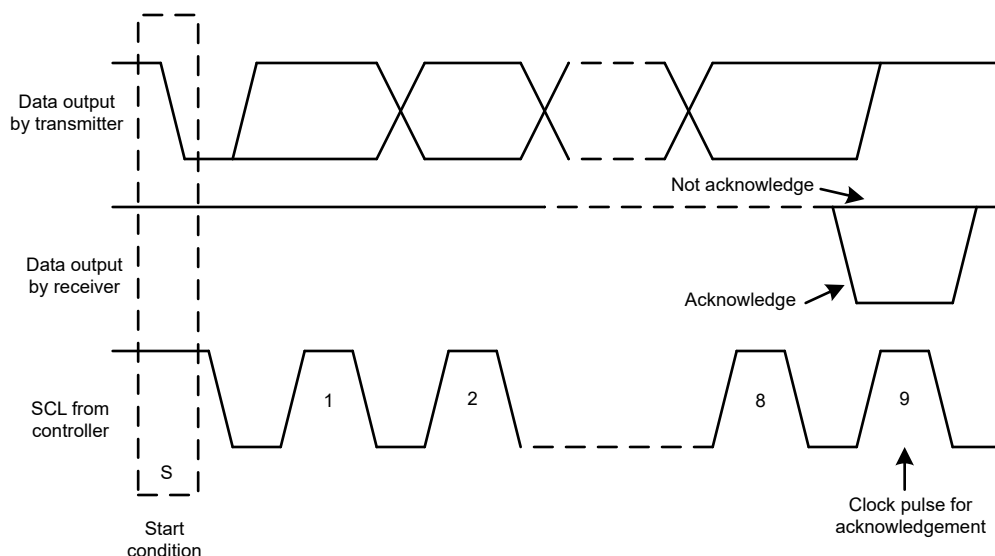
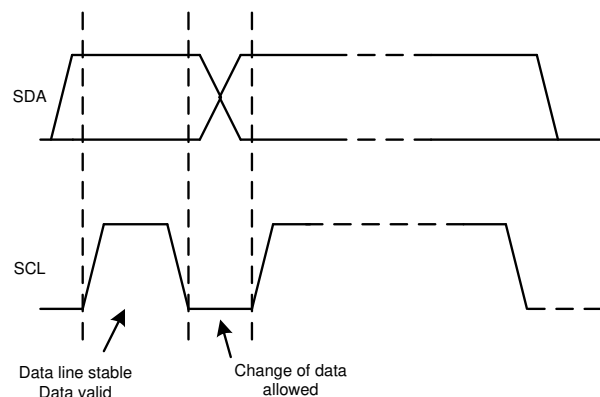

Figure 7-10. Acknowledge and Not Acknowledge on the I²C Bus
Figure 7-12. Bit Transfer on the I²C Bus
Other than specific timing signals, the I²C interface works with serial bytes. At the end of each byte, a ninth clock cycle generates and detects an acknowledge signal. An acknowledge is when the SDA line is pulled low during the high period of the ninth clock cycle. Figure 7-10 depicts a not-acknowledge, when the SDA line is left high during the high period of the ninth clock cycle.
2. The controller then generates the SCL pulses, and transmits the 7-bit address and the read/write direction bit ($R/\bar{W}$) on the SDA line. During all transmissions, the controller makes sure that data are valid. Figure 7-12 shows that a valid data condition requires the SDA line to be stable during the entire high period of the clock pulse. All devices recognize the address sent by the controller and compare the address to the respective internal fixed address. Only the target device with a matching address generates an acknowledge by pulling the SDA line low during the entire high period of the 9th SCL cycle (see also Figure 7-10). When the controller detects this acknowledge, the communication link with a target has been established.